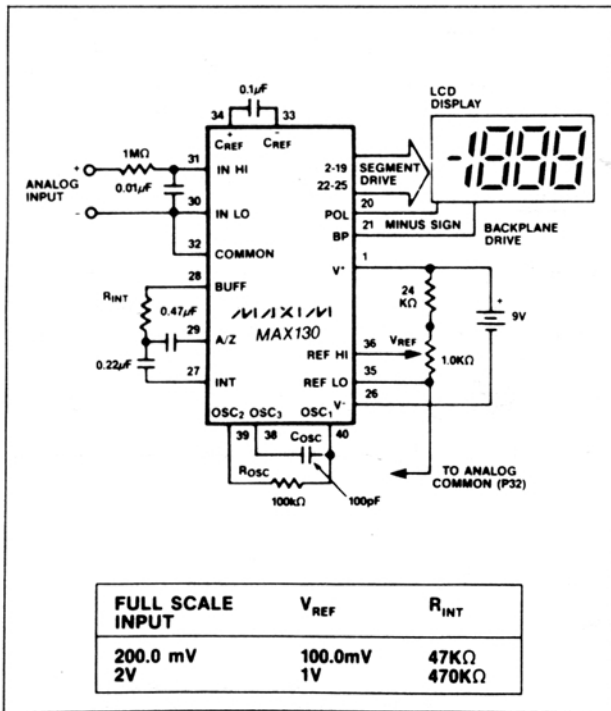
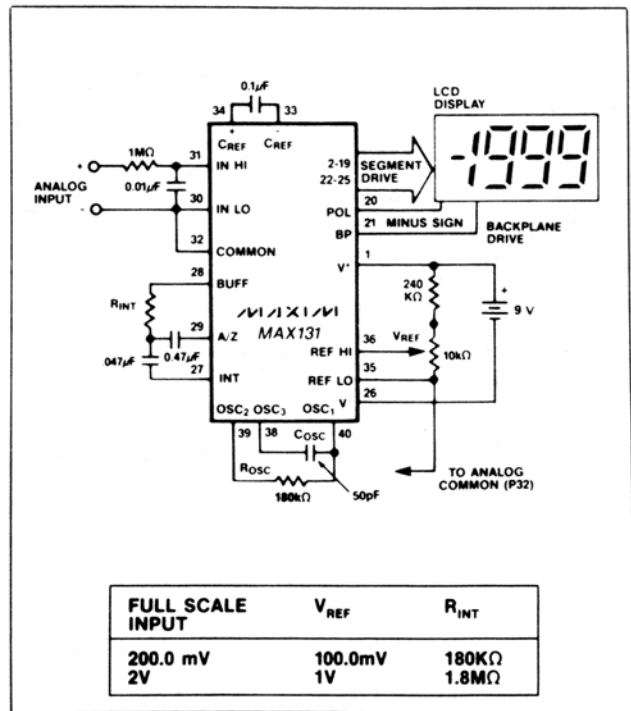

Figure 1. Maxim MAX130 Typical Operating Circuit, 3 Conversions per Second
Figure 2. Maxim MAX131 Typical Operating Circuit, 3 Conversions per Second
( $V^+ = 9\text{V}$ ,  $T_A = 25^\circ\text{C}$ ,  $f_{\text{CLOCK}} = 48\text{kHz}$ ; test circuit - Figure 1; unless noted)
(V\* = 9V, TA = 25°C, fCLOCK = 48kHz; test circuit - Figure 2; unless noted)
**Note 3:** Test condition is VIN applied between pin IN-HI and IN-LO through a 1MΩ series resistor as shown in Figures 1 and 2.
**Note 4:** 1MΩ resistor is removed in Figures 1 and 2.
Figures 1 and 2 show the basic MAX130 and MAX131 applications circuits. Note that the circuits for the MAX130 and the MAX131 use different values for the integration and oscillator components. The MAX130 can operate using the MAX131 component values, but the MAX131 will not operate using the MAX130 component values. The lower supply current device, the MAX131, must always use the higher value integrator resistor as shown in component value table in Figure 2. With a typical operating current of only 65µA, the MAX131 will operate for about 8500 hours when powered by a typical 550mAh alkaline 9V battery. The MAX130 will operate for 2200 hours with a 550mAh battery.
The MAX130/131 can easily be used with ±5V supplies. Connect  $V^+$  to +5V,  $V^-$  to -5V. If the voltages to be measured are referred to ground, then connect In Lo to ground. In most cases, Ref Hi and Ref Lo should be connected to a resistive divider string between  $V^+$  and Common, as shown in the standard application circuits of Figures 1 and 2. If Common is not used to generate the reference it can either be left floating or can be connected to ground. If the MAX130/131 oscillator is driven by 5V logic, or if the MAX130/131 LCD outputs drive 5V logic, then connect the Test pin to ground. If the MAX130/131 open circuit Test voltage is above ground, then connecting Test pin to ground will set the internal digital ground to approximately ground. If, however, the open circuit Test voltage is negative, then the internal digital ground voltage will remain negative, additional  $V^+$  supply current will be drawn, and the LCD segments will continue to swing